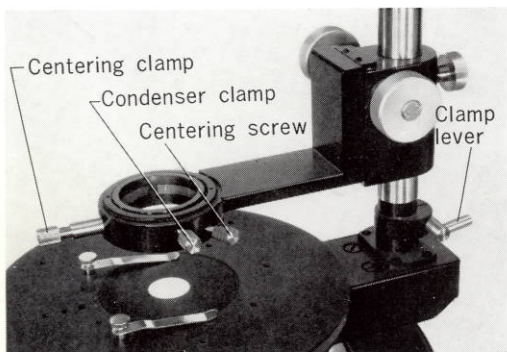

Fig. 15
- For this type illumination, attach the condenser to be used to the condenser bracket. Fasten the post in such a position that the condenser is aligned with the objective. (Fig. 15)